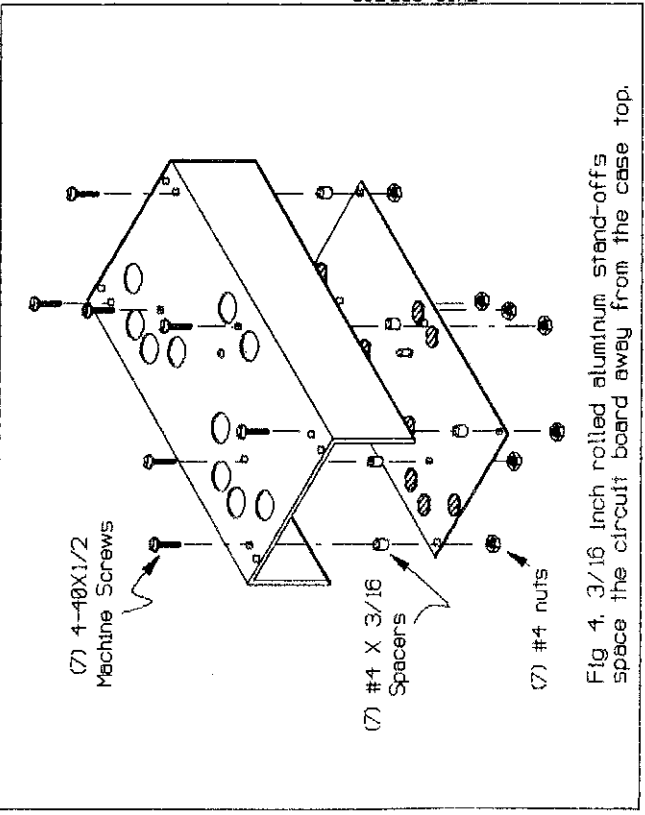

Fig 4. 3/16 inch roiled aluminum stand-offs space the circuit board away from the case top.
- () Mount the circuit board in the case top using the (7) 4-40 X 1/2" machine screws and #4 nuts provided. Space the board away from the case top using the (7) 3/16" rolled aluminum spacers as shown in Fig 4.